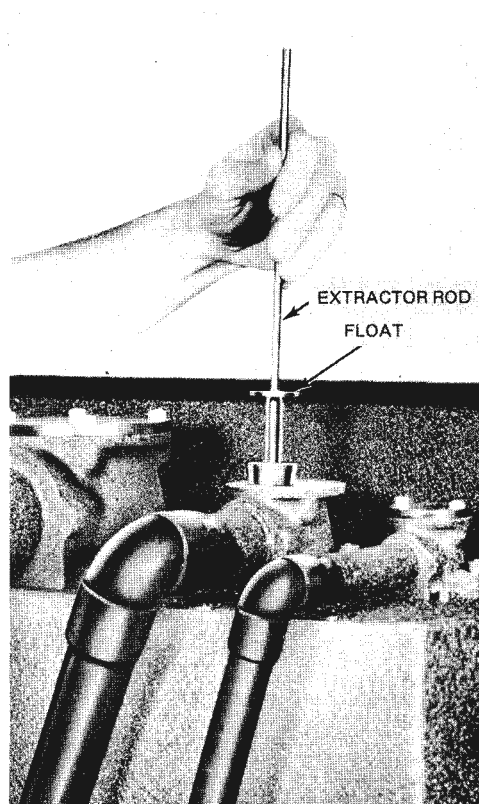

Figure 7. Installing or Removing Float
- c. Insert float extractor rod (fig. 7), thread it onto float, and lift out float. Handle floats carefully to avoid damage.